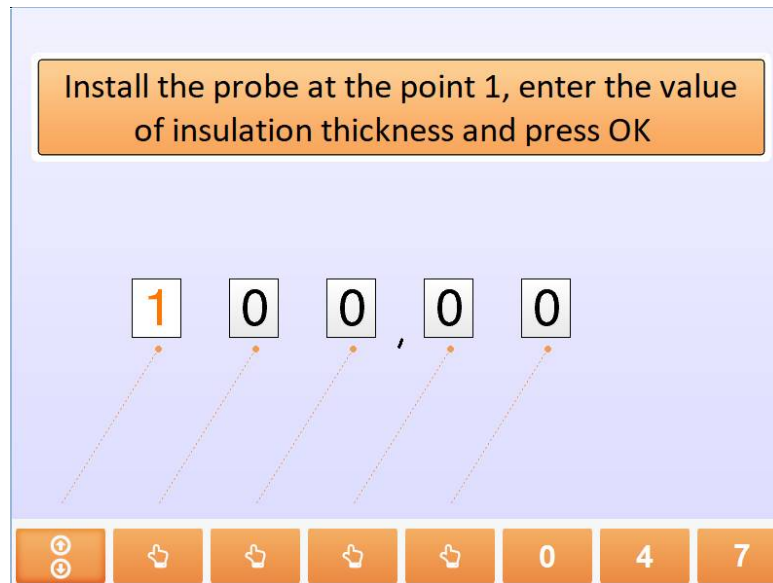

Figure 27. Set the insulation thickness.
- The window shown in Figure 27 will open. Enter the expected insulation thickness.